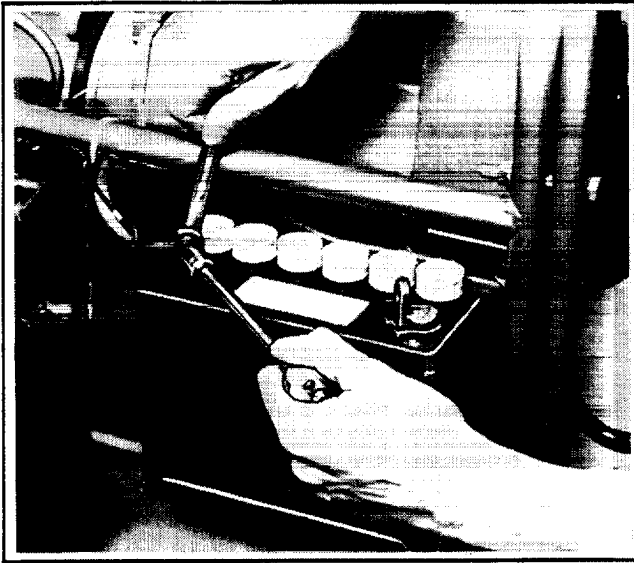

Figure 1. Connecting To Battery Positive
2. Push charger lead assembly positive (+) lead through rubber boot and connect to battery positive (+) terminal with positive (+) cable. Replace boot. See Figure 1.